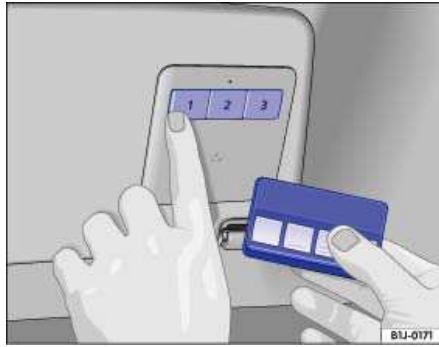

Fig. 53 To program: Simultaneously press the buttons for the HomeLink Universal Transmitter and the remote control.
3. Using both hands, simultaneously press and hold both the HomeLink button you want to program (**1**, **2**, or **3**) and the hand-held transmitter button, as shown ⇒ fig. 53. **Do not release the buttons until the HomeLink indicator light flashes slowly and then rapidly.** When the indicator light flashes rapidly, release both buttons. The rapid flashing indicates successful programming.